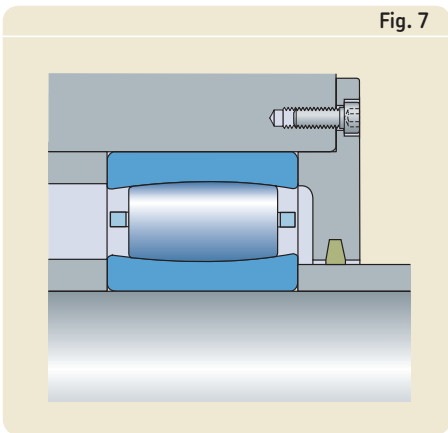

Fig. 7
- distanshylsor (→ **fig. 7**)